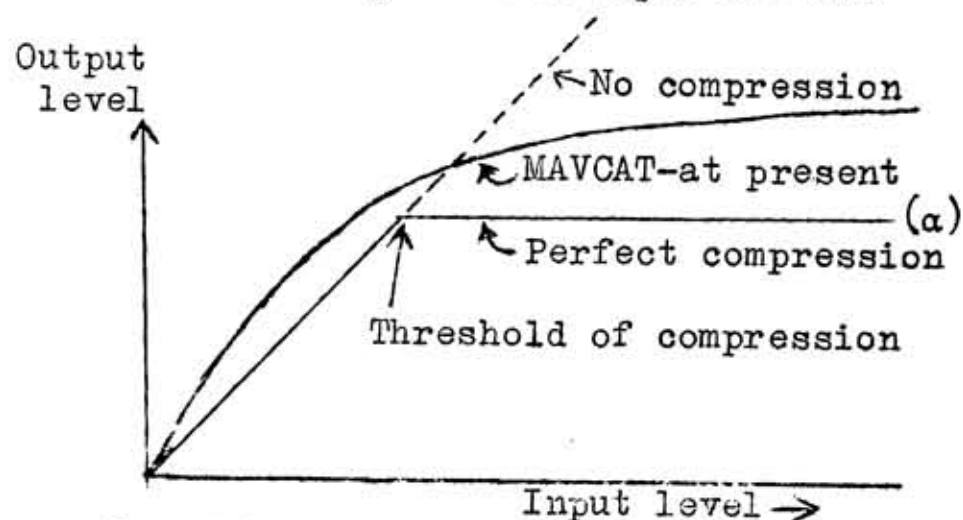

Fig. 11
6. Compression. Curve A of Fig. 11 shows the relationship between input and output levels for an ideal compressor. Although MAVCAT's performance is not perfect, it would be adequate for most needs. Perfect compression can indeed be approximated closely, as will be seen in next month's sequel.